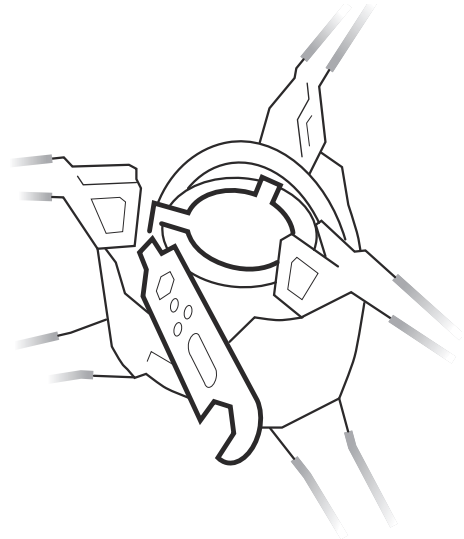

Figure 14-17. Remove the Spreader.
- Remove the flame spreader (see fig. 14-17).